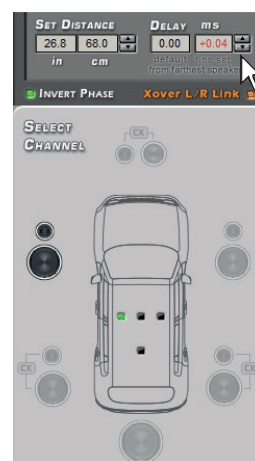

Fig.6
It will then be possible to perform fine tuning by using the Fine Set function. (fig.6)
5. Perform all time delays settings, start playing music and select the Fine Set box. By shifting the values between positive or negative (except for the Subwoofer in Fig.6 since it is the farthest speaker), the best time alignment and correct acoustic scene can be obtained.